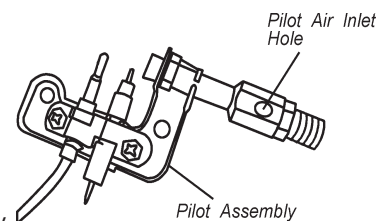

Figure 23 - Pilot Inlet Air Hole
3. Blow air through the ports/slots and holes in the burner. Also clean the pilot assembly. A yellow tip on the pilot flame indicates dust and dirt in the pilot assembly. There is a small pilot air inlet hole about two inches from where the pilot flame comes out of the pilot assembly (see Figure 23). With the unit off, lightly blow air through the air inlet hole. You may blow through a drinking straw if compressed air is not available.